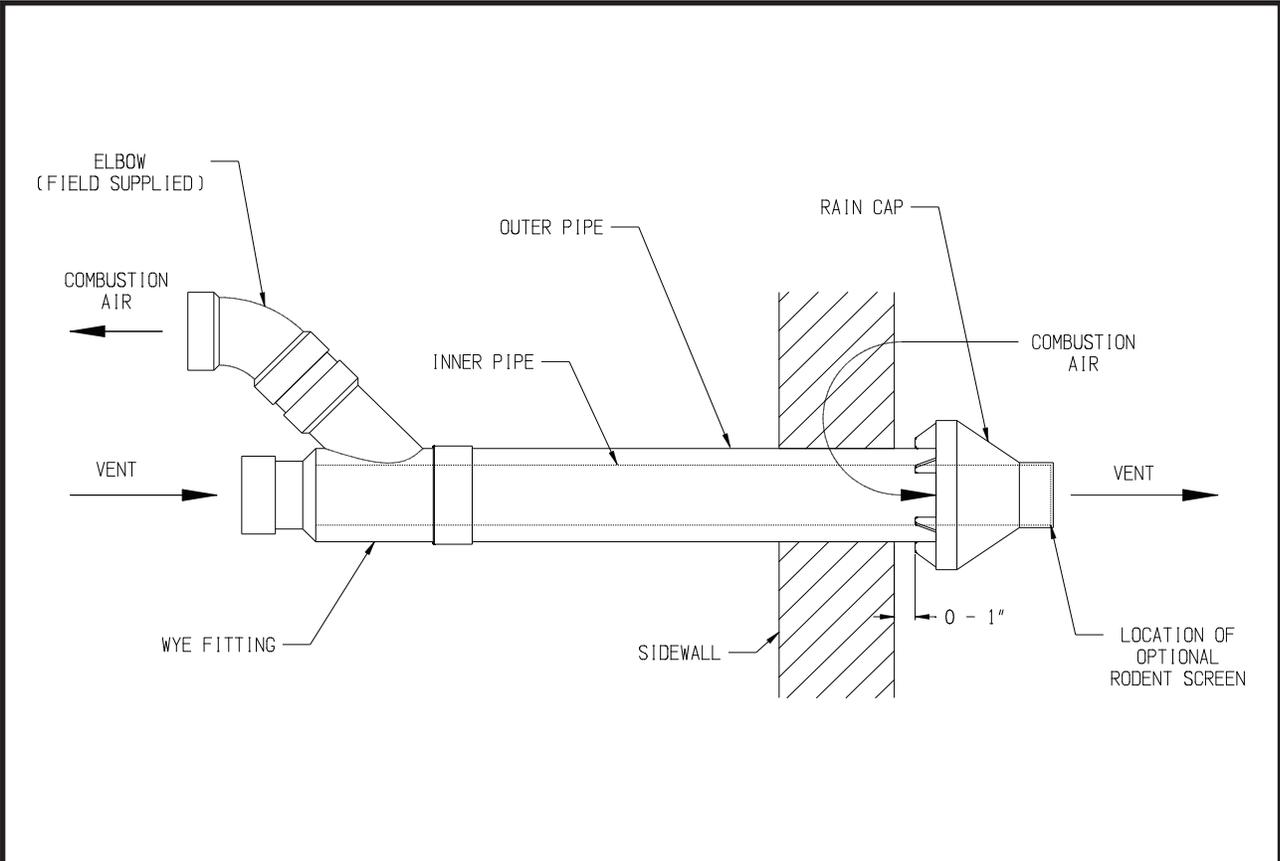

FIGURE 1.21: INSTALLATION OF OPTIONAL CONCENTRIC TERMINAL THROUGH SIDEWALL
- h. Cement the rain cap onto the inner pipe. If desired, the rain cap can be attached to the inner pipe with a field supplied stainless steel screw so that it can be later removed for cleaning and inspection. If this is done, drill a clearance hole in the rain cap and a tap hole in the inner pipe to accept this screw. A 1/2” mesh field supplied rodent screen may also be installed between the rain cap and the inner pipe (Figure 1.21)